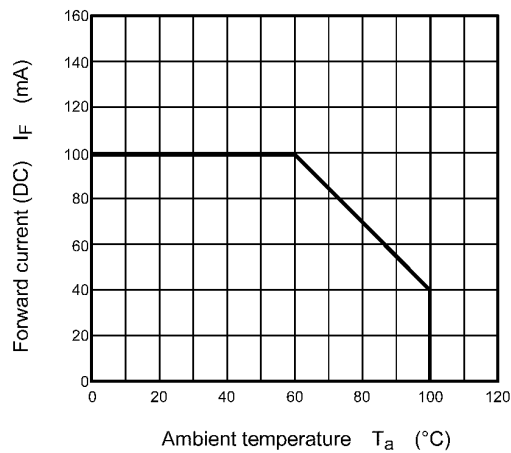

Fig. 4.1 $I_F - T_a$ (Note)
| Forward current (DC) | I_F | See Fig. 4.1 | 100 | mA |